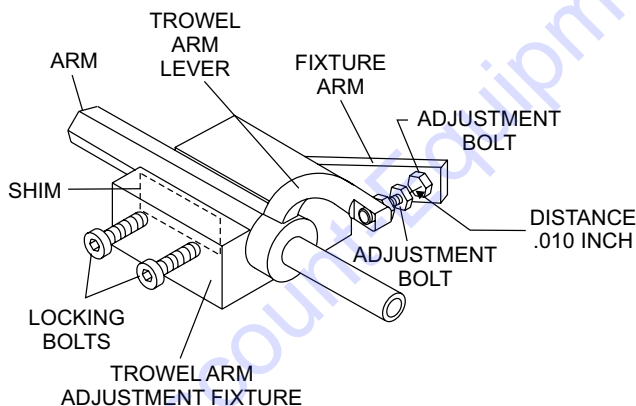

Figure 60. Trowel Arm Adjustment Fixture
3. Next, check the clearance between the round shaft and the test surface as one of the flat hex sections of the arm rests on the test surface. Rotate the arm to each of the flat hex sections and check the clearance of the round shaft. Use a feeler gauge (Figure 60) of .005 inch (0.127 mm). Each section should have the same clearance between the round of the trowel arm shaft and the test surface.
1. Unscrew the locking bolts on the adjustment fixture and place the trowel arm (lever attached) into the fixture channel as shown in Figure 60.
5. Adjust the bolt distance shown in Figure 60 to match one of the arms. The other arms will be adjusted to match this distance.